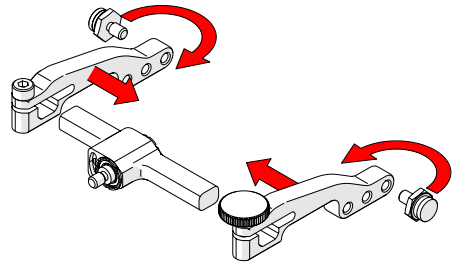

Fig. 149 - Attach arms and move buttons
4. Place the pivot buttons on the inside of the probe holder arms (Fig. 149) using a 3/8 in wrench (Fig. 2). Slide the arms onto the yoke and tighten the probe holder arm adjustment knob and the arm clamp screw.